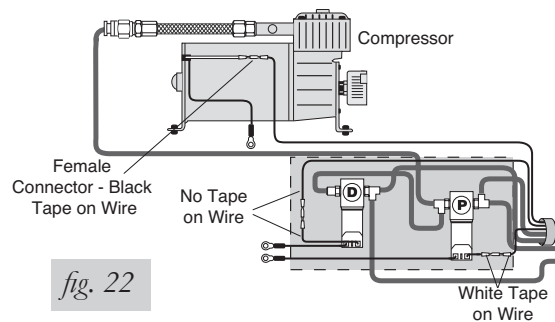

fig. 22
1. Connect the wires on the harness to the wires of the compressor and solenoids by color and terminals (black to black, no tape to no tape, white to white, etc). Refer to Fig. 22.